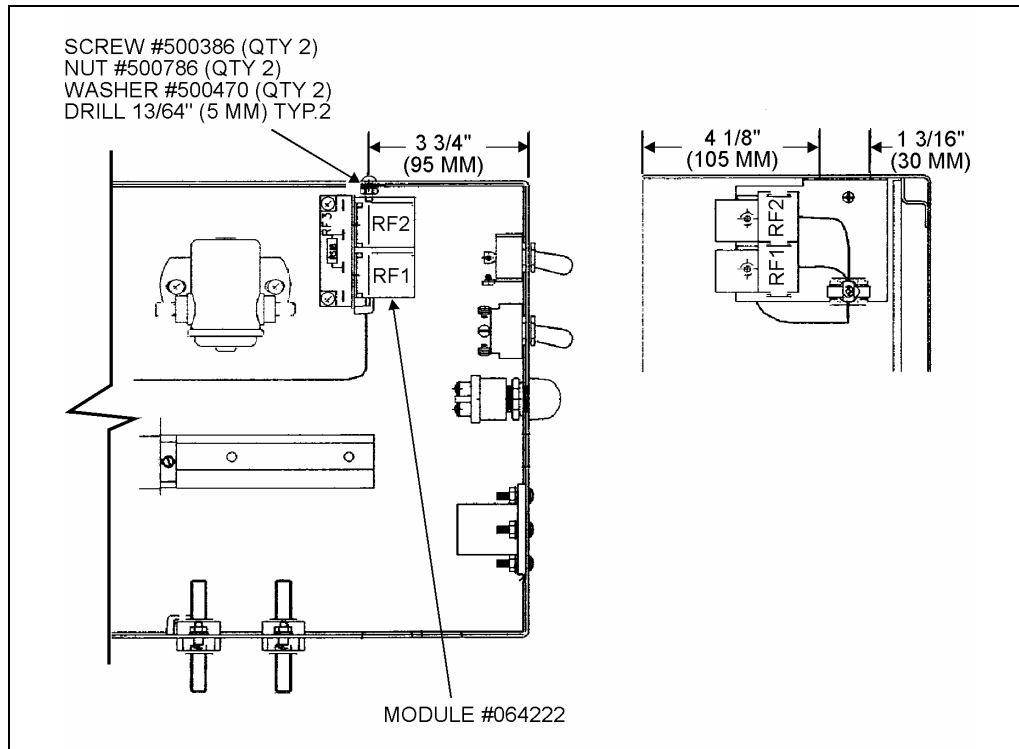

FIGURE 6
2. Position fan control module #064222 as illustrated in figure 6, then mark position of the two holes to be drilled.